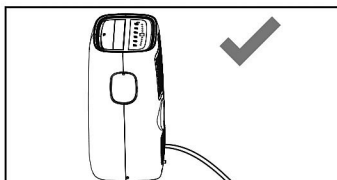
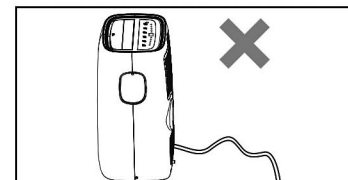

Fig. 19
Fig. 20
- Please be sure that the height of the drain and section of the drain hose is not higher than that of the drain outlet, or the continuous drainage may not work properly. (Fig. 19 & Fig. 20).